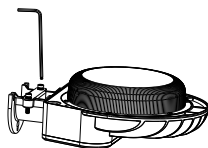

Figure 1
1. Loosen the installation plate on the arm by M6 hex wrench (Figure 1);